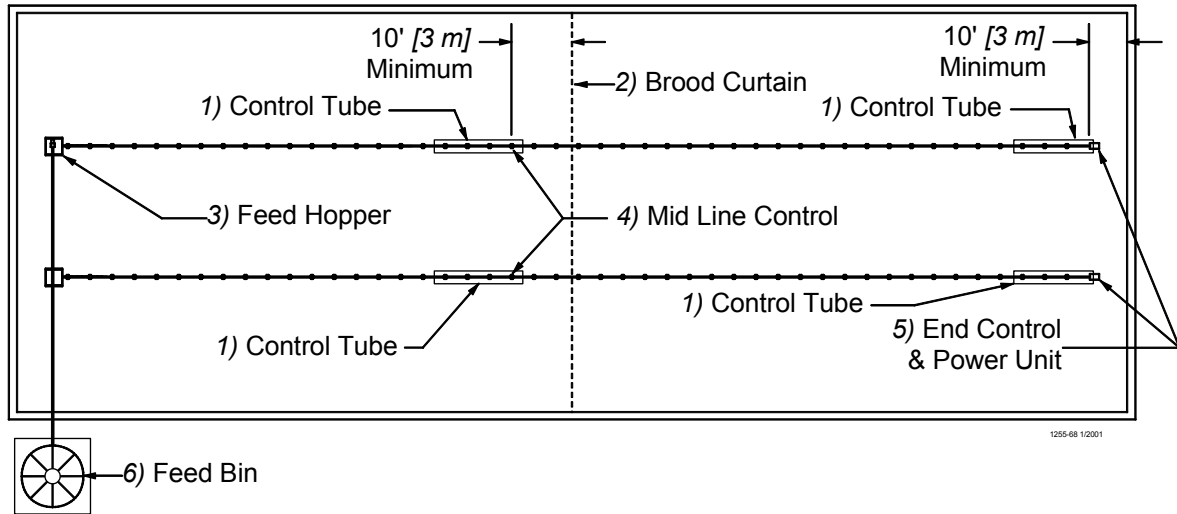

Figure 1. Component location diagram for systems up to 400 feet [122 m]. (Top View).
A. Optional Mid Line Controls may be used for partial house brooding, see figure 1.